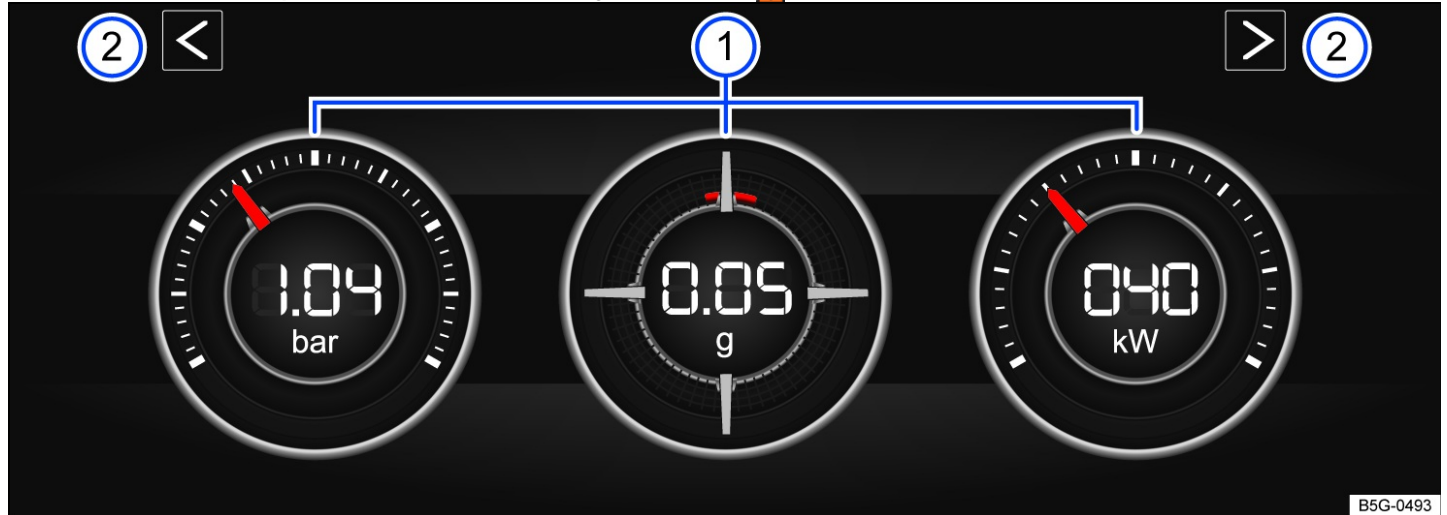

Fig. 18 On the Infotainment system screen: performance monitor.
If you want to switch between the performance monitor and the lap timer ➔ Lap timer, tap one of the left or right arrow buttons above the instruments fig. 18 ②.
The display can show a maximum of three instruments at the same time. Every instrument can be selected for any display area fig. 18 ① (left, center, right).
- **Boost pressure indicator:** the boost pressure indicator fig. 18 ① (left) displays the boost pressure between the turbocharger and the engine (in "bar"). The farther to the right that the needle on the scale is, the more engine power is being used.
- **Accelerometer (G meter):** the accelerometer (G meter) fig. 18 ① (center) displays the acceleration value in the center area (in "g"). The red marking in the tab area shows the intensity of the acceleration and the direction of the force that is in effect (contrary to the physical laws). For example, if you drive to the left the red marking will move in the right area of the instrument (and vice versa). When accelerating, the red marking will move downward. When braking, the red marking will move upward. The intensity of acceleration is indicated by the position of the red marking from the inside to the outside. If you accelerate faster, the red marking will disappear from the center area.
- **Power gauge:** The power gauge fig. 18 ① (right) shows the engine power that is being currently used as a digital value displayed on the surrounding scale (in kW).